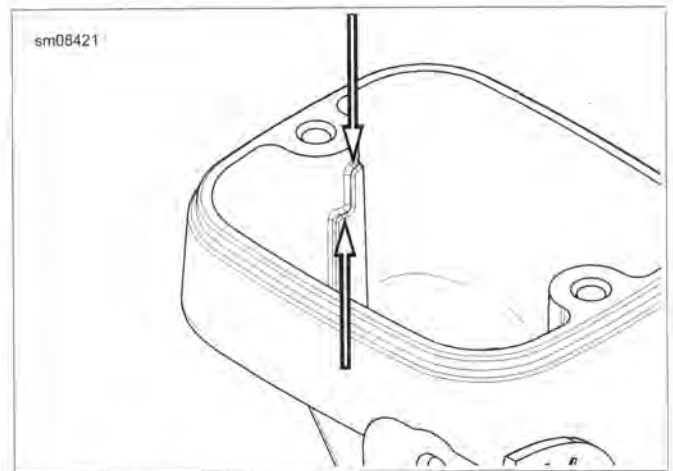

Figure 2-80. FILL Level Boss (front master cylinder)
4. See Figure 2-80. Add brake fluid as necessary. Verify proper operation of the master cylinder relief port by actuating the brake pedal or lever. A slight spurt of fluid will break the fluid surface in the reservoir if internal components are working properly. Refer to Table 2-12.